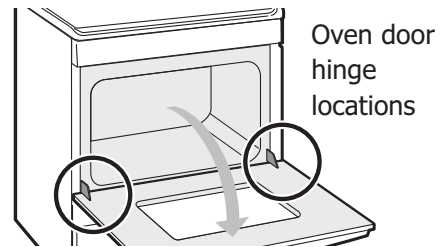

Figure 34: Door hinge location
1. Open oven door completely, horizontal with floor (See Figure 34).
3. Fully open the oven door, horizontal with floor (See Figure 34).